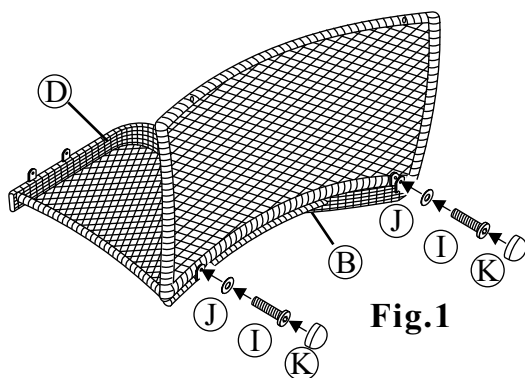
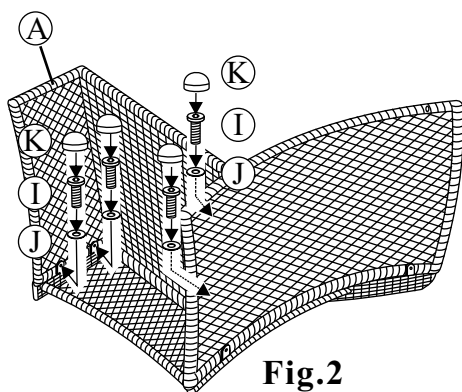
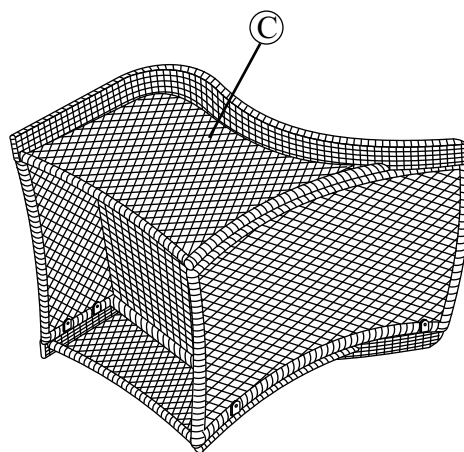

Fig.1
Fig.2
Fig.3
- 1 Assemble furniture on a smooth, non-abrasive surface. Attach the back frame to right arm by using two 1/4"x18 mm bolts and washers as shown in **Fig.1**. Guide the bolts through holes in back frame, into pre-drilled holes in the right arm. **Hand tighten only**. Attach the seat frame to right arm and back frame by using four 1/4"x18 mm bolts and washers as shown in **Fig.2**. **Hand tighten only**. Attach the left arm to back and seat frame by using four 1/4"x18 mm bolts and four washers as shown in **Fig.3**. **Hand tighten only**.
- Step 2:** Attach the seat frame to the back frame by using four 5/16"x40 mm bolts and washer as shown in *Figure 1*. Guide these bolts through the holes in the seat frame, into the fixed nuts already in place in the back frame. **Do not over tighten.**
- Step 3:** Attach love seat arm by inserting two 5/16"x25 mm bolts with washers through the holes in front seat portion of the love seat frame and into the holes in the love seat arm shown in *Figure 2*. Attach back of love seat arm by inserting two 5/16"x40 mm bolts with washers through holes in the back portion of love seat frame and into the holes in the rear portion of the love seat arm as shown in *Figure 2*. **Hand tighten only.** Repeat for the opposite side.